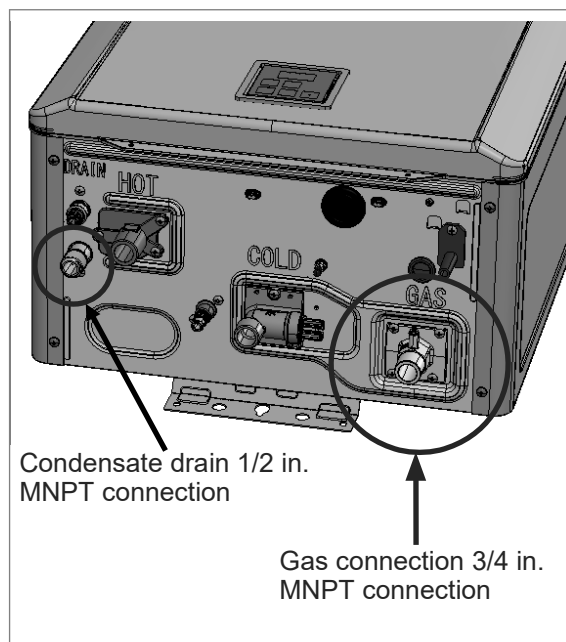

Figure 44
1. Apply thread sealant to 1/2 in. MNPT condensate drain port. Refer to Figure 44 for location of condensate drain.